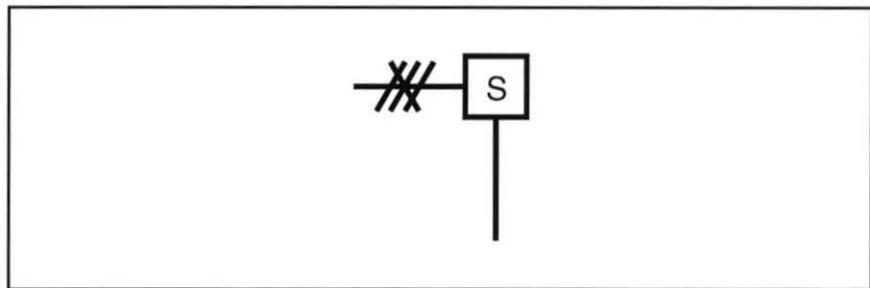

Figure 25. Actuator Symbol
3. Determine the type of valve or actuator symbol depicted in figure 25.